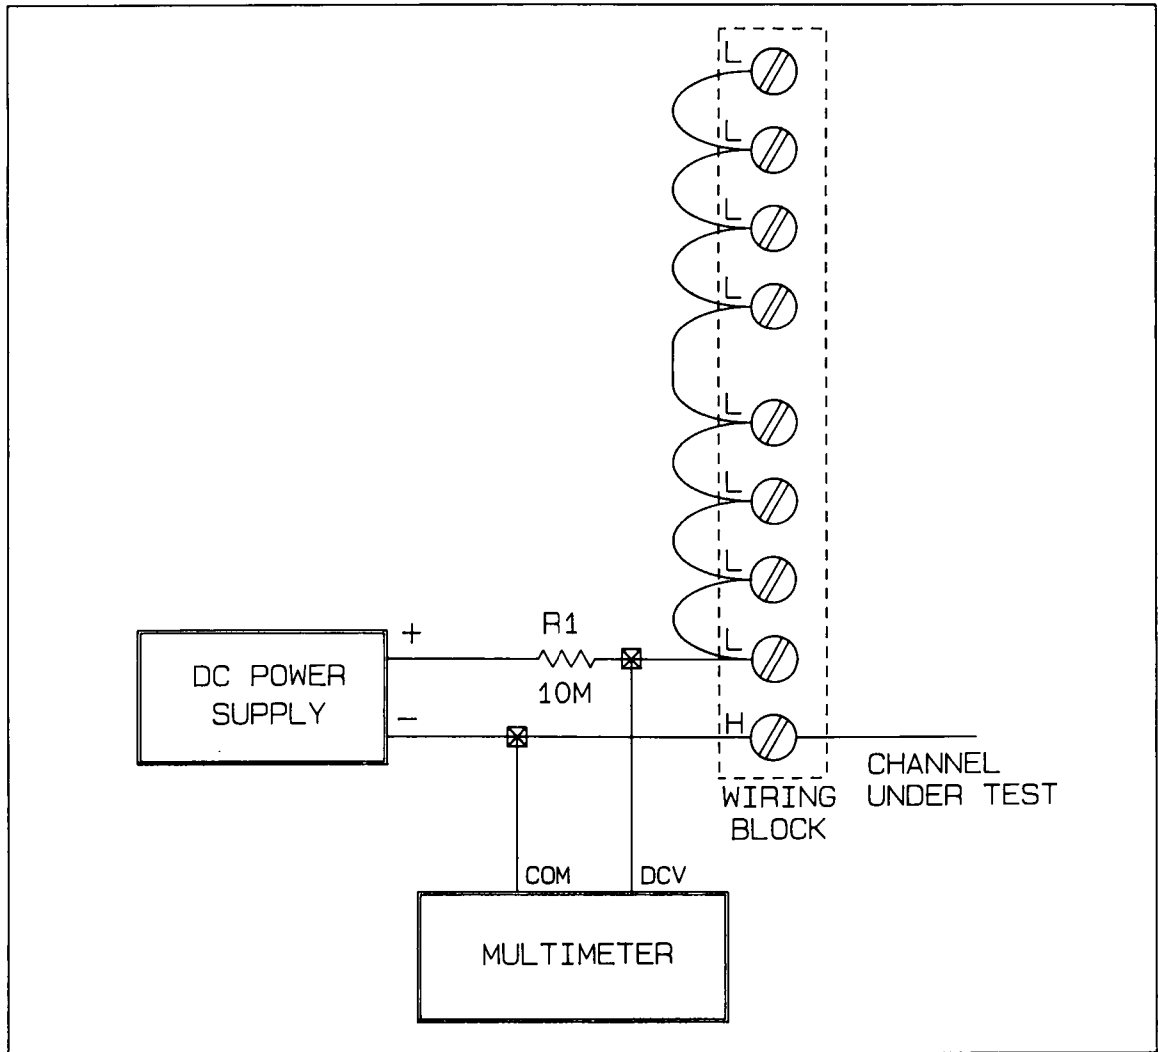

Figure 11-9 Row Or Column High To Low Test Circuit #2
19. Connect the shorted lines and the high line of the channel under test (row 0 to start) into the test circuit as shown in Figure 11-9.